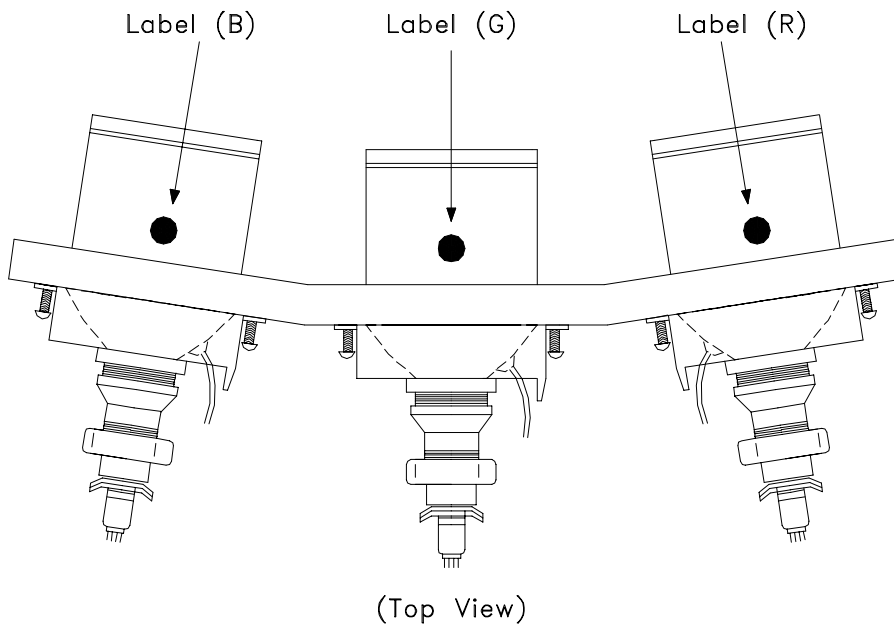

Figure 5-7
- a) Position the Lens so that the Label faces the direction shown in Figure 5-7